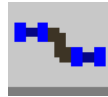

Figure 3-6
**The level-markers are still active. To deactivate them, press the Analyze Insertion Loss icon (see Figure 3-6).**
- 2 Press the Analyze Insertion Loss icon (Figure 3-6).